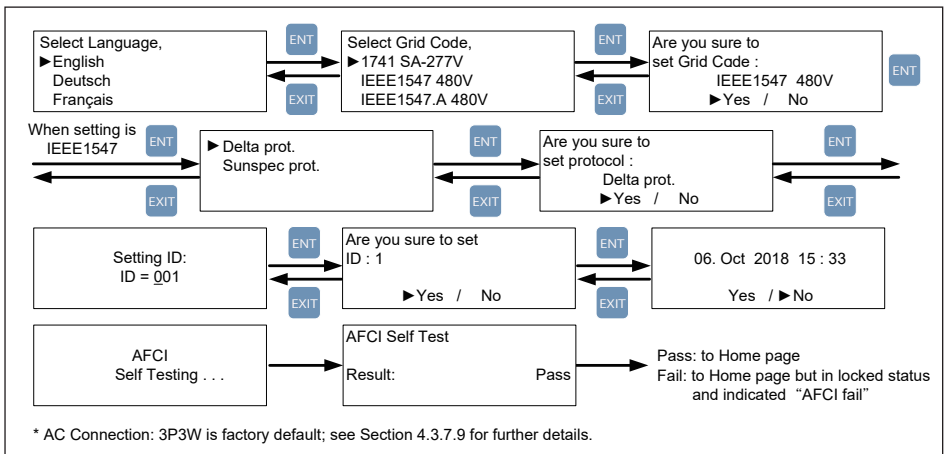

Figure 4-2: Grid code, language and ID settings for first startup
- During the initial startup, when the LCD display become active, the inverter control will enter the **First Start-up** routine which allows installer to set Language, Grid code, RS-485 protocol and inverter ID (RS-485 address). **Figure 4-2** below, illustrates the display flow charts of the inverter startup.